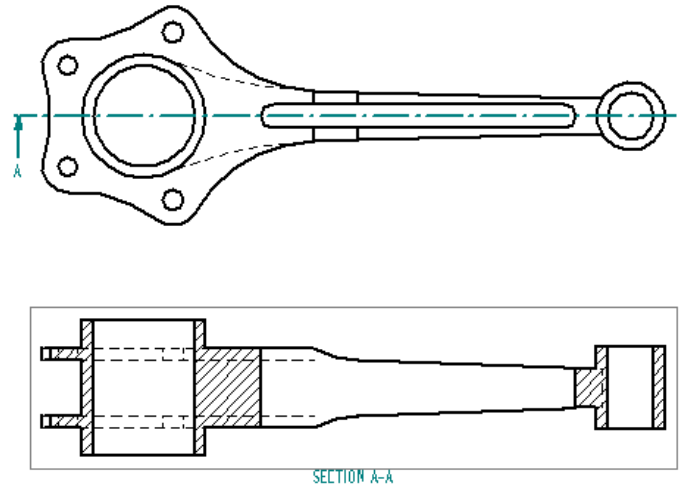

Figure 12-12 Shaded top view and the front section view
7. Select the cutting plane and place the section drawing view at the desired location in the drawing sheet. A simple section view is shown in Figure 12-12.